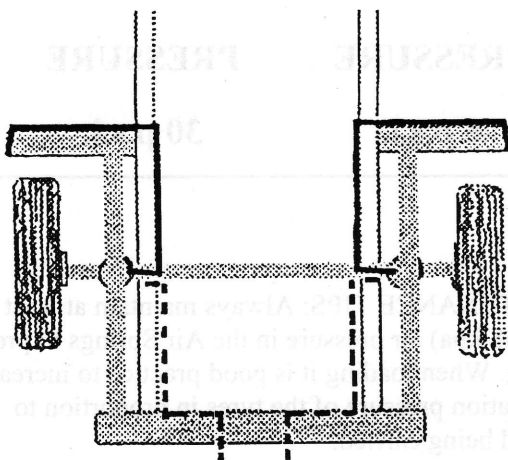

FIGURE 3
4. Select a location for the inflation valves in the rocker sills or rear floor pan ensuring that each valve will be protected and accessible with an air hose. (Figure 3).